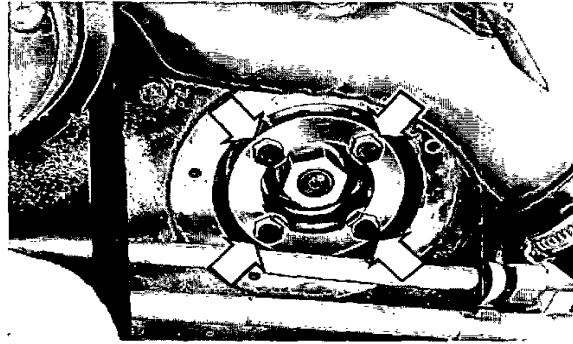

Fig. 135. Pump drive (60 series)
14. **60 series:** Remove the cover from the auxiliary gear cover, right in front of the injection pump. Turn up the lock washer flanges and unscrew the bolts in the pump drive (fig. 135).
16. **60 series:** Rotate the pump shaft with a socket wrench (27 mm = 1 1/16") until the dial indicator shows the correct value. Tighten the pump drive bolts (fig. 135).